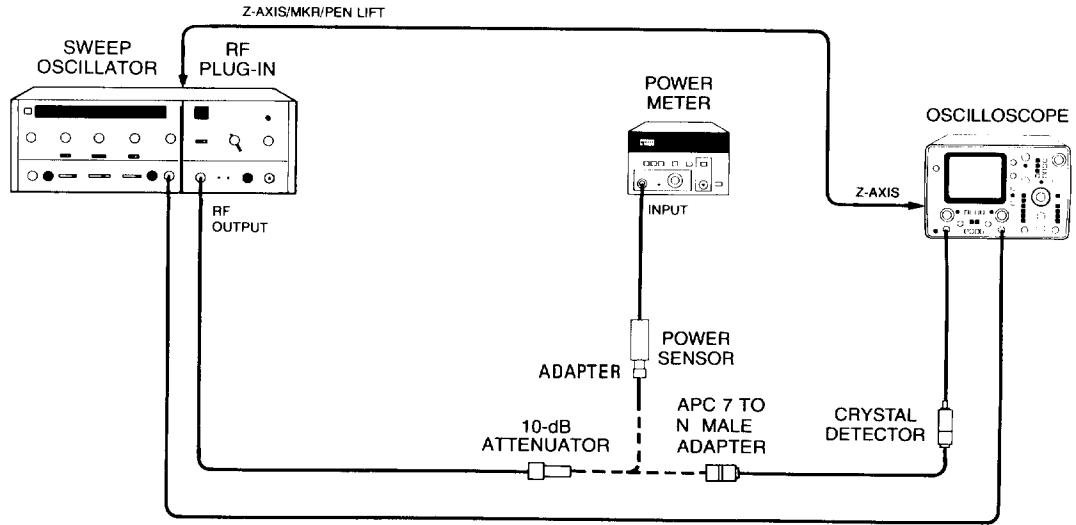

Figure 4-7. Internal Leveling Test Setup
Equipment listed is for three test setups (Figures 4-7, 4-8 and 4-9).
- a. Connect equipment as shown in Figure 4-7 with RF OUTPUT connected to the oscilloscope. Set controls as follows:
- d. Connect equipment as shown in Figure 4-7 with RF OUTPUT connected to power sensor and power meter.
- g. Connect equipment as shown in Figure 4-7 with RF OUTPUT connected to crystal detector and oscilloscope. Adjust oscilloscope to establish +10 dBm reference on top horizontal graticule.
- h. Connect equipment as shown in Figure 4-7 with RF OUTPUT connected to power sensor and power meter. Adjust 86290B power to +11.4 dBm -0.1 dB. (It may be necessary to change frequency.)
- i. Connect equipment as shown in Figure 4-7, with RF output connected to crystal detector and oscilloscope. Note 11.4 dBm reference point on oscilloscope. Area between this trace position and top graticule line represents leveling to tolerance.